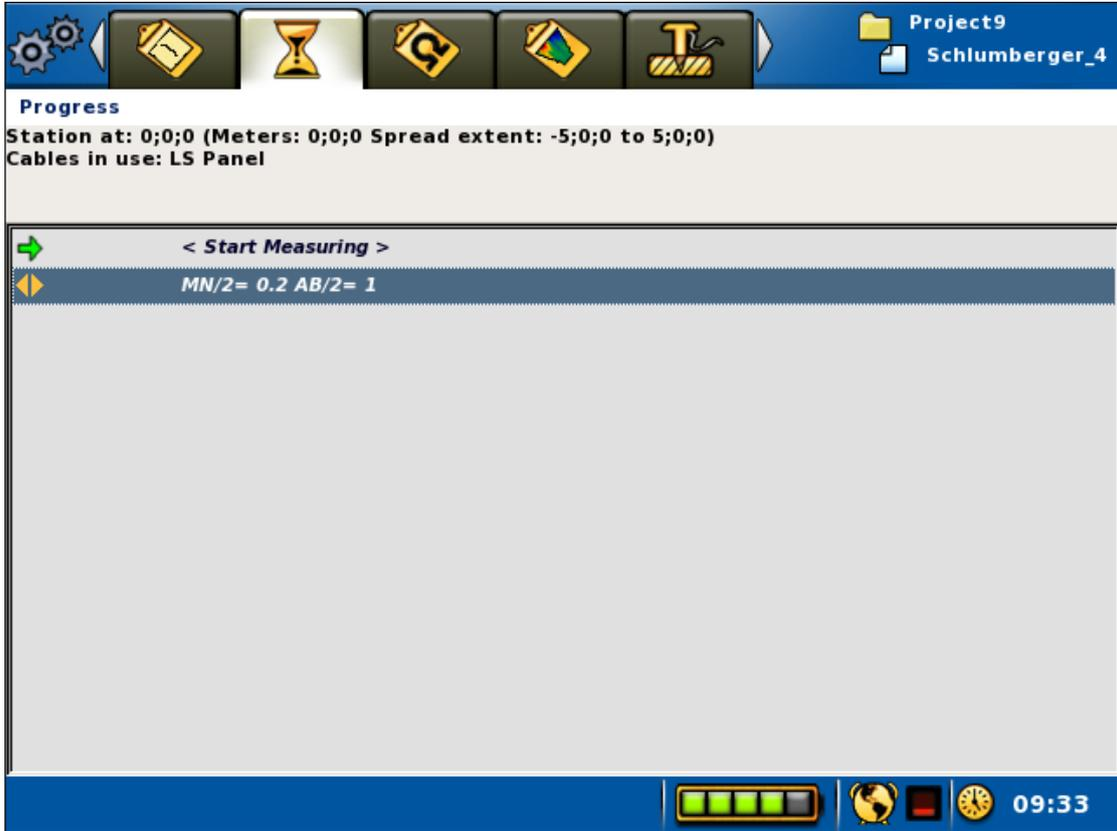

Figure 65 The Progress view in VES mode
- The “*Measure/Progress*” *View* (Figure 65) will be used to start and stop measurements as usual. The active electrode position, that is the electrode position to be measured, can also be set from this *View*.
In VES mode a line with a “MN/2 and AB/2” electrode position will be shown on the *Progress View* (Figure 65). This is the active electrode position.
The *Electrode Positions View* (Figure 66) lists all the electrode positions from the protocol file. The dark yellow arrow is placed on the line that corresponds to the active electrode position. This electrode position is the one that is shown on the second row of the *Progress View* (Figure 65). The *Electrode Positions View* will be empty when the instrument is not in VES mode.